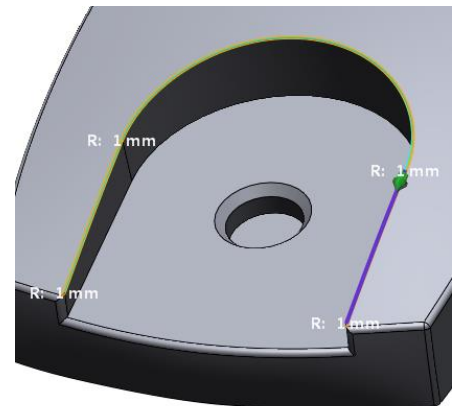

Figure 174
3. Right-Click the solid edge of the other cut out in **Figure 174**, and choose the **Fillet** icon.